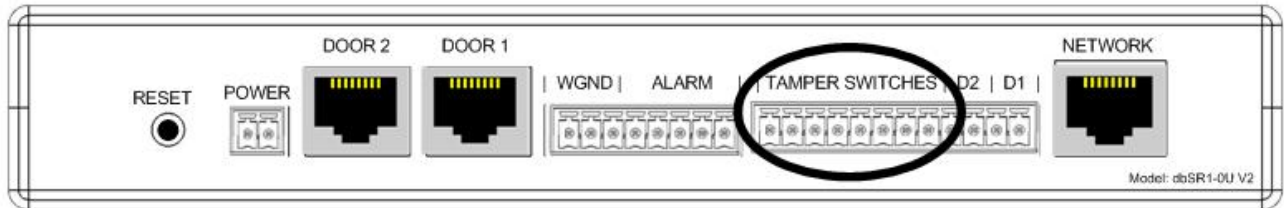

Figure 15a
- Pins 1 thru 8 are used for the Tamper Switches, as show in Figures 15a and 15b.